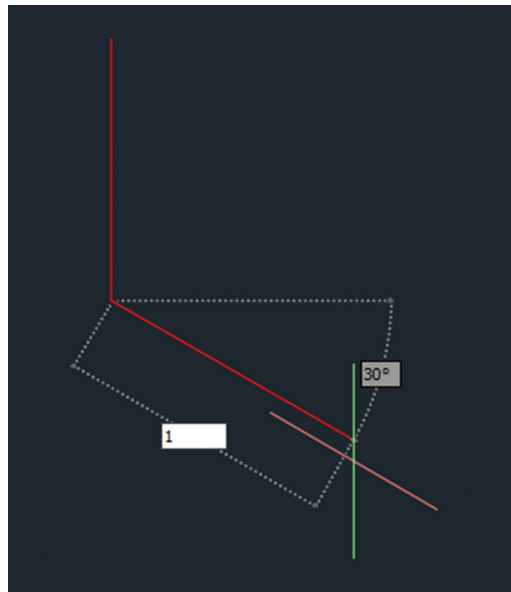

FIGURE A.5 Drawing lines in isometric with Ortho on
- Toggle on Ortho on the status bar if it is not already on. Move the cursor down and type 1 to draw a vertical line of 1 unit in length. Move the cursor to the right and observe that the cursor is constrained to a 30-degree angle. Type 1 and press Enter to draw another line segment (see Figure A.5).